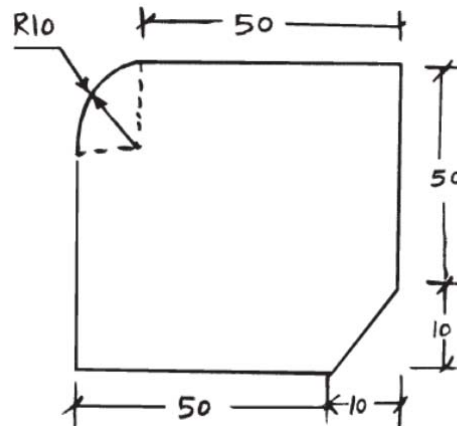

Figure 2
- a) Prepare a part program for machining component as shown in Figure 2 Use following data: cutting speed : 1200 rpm, feed : 60 mm/min, thickness of component 3 mm, Tool reference position is 4 mm above the surface of the work piece. Assume suitable data if any. Neglect cutter radius compensation